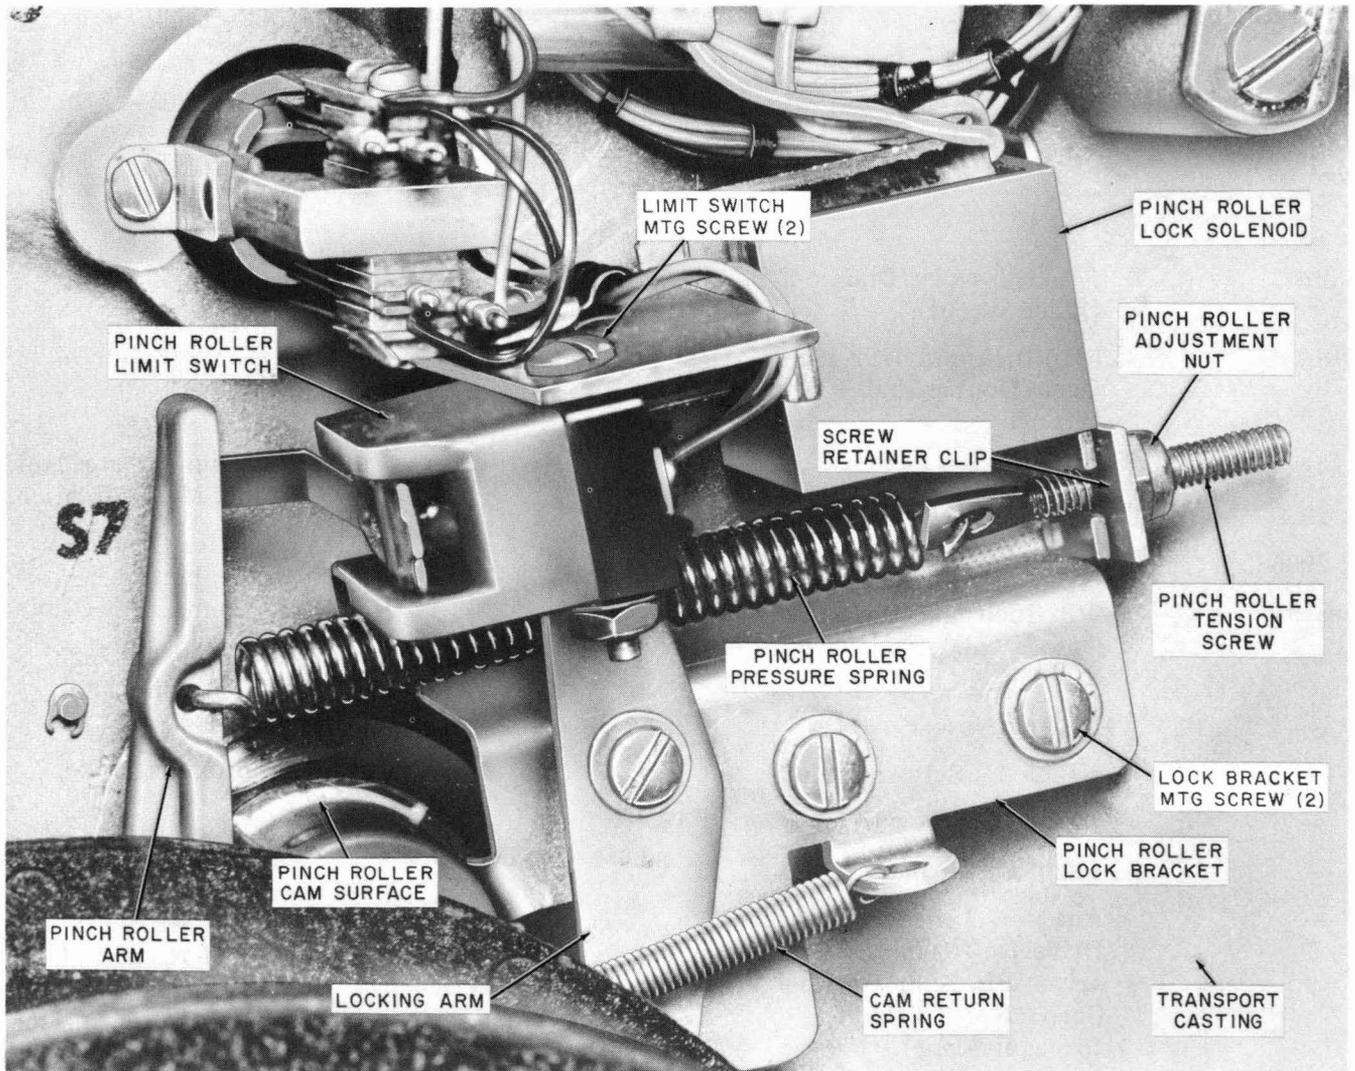

Fig. 10—Pinch Roller Limit Switch, Lock Solenoid, and Associated Parts
(b) The pinch roller limit switch (Fig. 10) shall operate when the pinch roller knob is placed in the RUN position and shall release when the knob is placed in the LOAD position.
2.08 Pinch Roller Lock Solenoid: The pinch roller lock solenoid (Fig. 10) shall operate smoothly and produce positive locking of the pinch roller knob in the RUN position during remote control of equipment. To check the requirement, proceed as follows.
(1) **Pinch Roller Knob and Pinch Roller Assembly:** Position the pinch roller knob to LOAD position. Using the R-2966 brush, apply a film of No. 6 Dow compound lubricant to the cam surface on the rear section of the pinch roller knob at the point where it contacts the pinch roller assembly (Fig. 10). Operate the pinch roller knob between the LOAD and RUN positions several times to spread the lubricant.
- (1) Using the P long-nose pliers, grasp flat end of the pinch roller tension screw (Fig. 10) so that it does not rotate while the adjustment nut is being tightened or loosened.
- (2) Using the R-3193 wrench, turn pinch roller adjustment nut clockwise to increase pinch roller pressure or counterclockwise to reduce pressure. One turn of the adjustment nut causes approximately 0.75-pound change in pinch roller pressure.
- (1) If limit switch does not operate when pinch roller knob is turned to RUN position and does not release when knob is turned to LOAD position, loosen two screws which secure limit switch (Fig. 10) by using the 418A wrench and the 4-inch E screwdriver. Rotate switch on its mounting bracket until positioning is such that the proper switch functions occur in accordance with requirements of 2.07(b).
- (2) Tighten switch mounting screws and recheck switch operation.
3.08 Pinch Roller Lock Solenoid: If the lock solenoid (Fig. 10) fails to function in accordance with requirements, the condition may be due to one of the following causes and may be corrected as indicated.
- (a) **Interference or Misalignment:** With power off, perform an inspection of the lock solenoid, locking arm, and associated parts to determine if a binding condition exists between moving parts. Turn the pinch roller knob (Fig. 2) to the RUN position. Manually operate locking arm (Fig. 10) to the lock position several times and determine if the action of the locking arm
(b) **Electrical Failure:** Make visual check for loose or broken leads between the pinch roller lock solenoid (Fig. 10) and lead terminations at TB3-19 and 20 (Fig. 4). Ascertain that proper power is being supplied to the tape transport by the AMA power source. If, after performing (a) and (b), the lock solenoid does not meet requirements, refer to Section 034-360-801 and replace the solenoid.